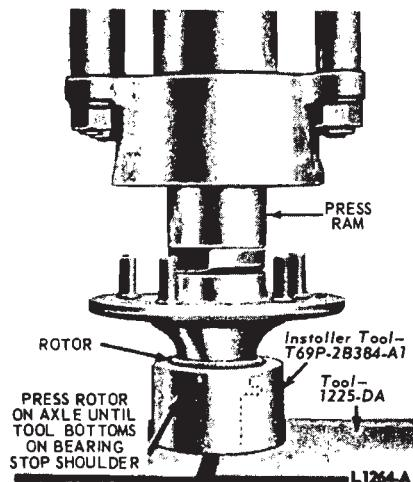

FIG. 17—Sensor Rotor Installation
1. Press a new sensor rotor onto the axle shaft (Fig. 17) with tool T69P-2B384-A 1 and TOOL 1225-DA.